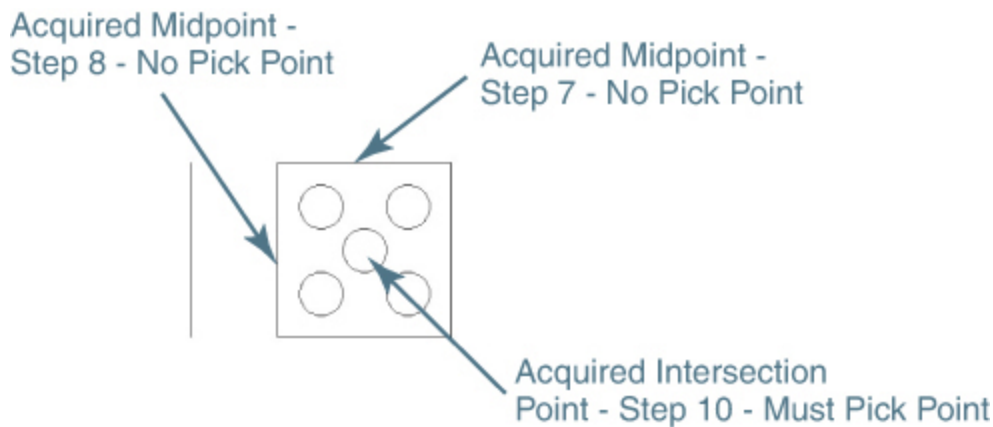

Figure 5-49
- 7 Acquire a point at the middle point of the horizontal line on the top of the square by placing your cursor over the horizontal line so the **Midpoint** AutoSnap marker and tooltip are displayed. *Do not* pick a point (see Figure 5-49).
- 8 Acquire a point at the middle point of the vertical line on the left of the square by placing your cursor over the vertical line so the **Midpoint** AutoSnap marker and tooltip are displayed. *Do not* pick a point (see Figure 5-49).
- 10 Pick a point when the two alignment paths cross and the small acquired intersection point marker (x) is displayed (see Figure 5-49).
13 Save your drawing. Your drawing should look like Figure 5-49.